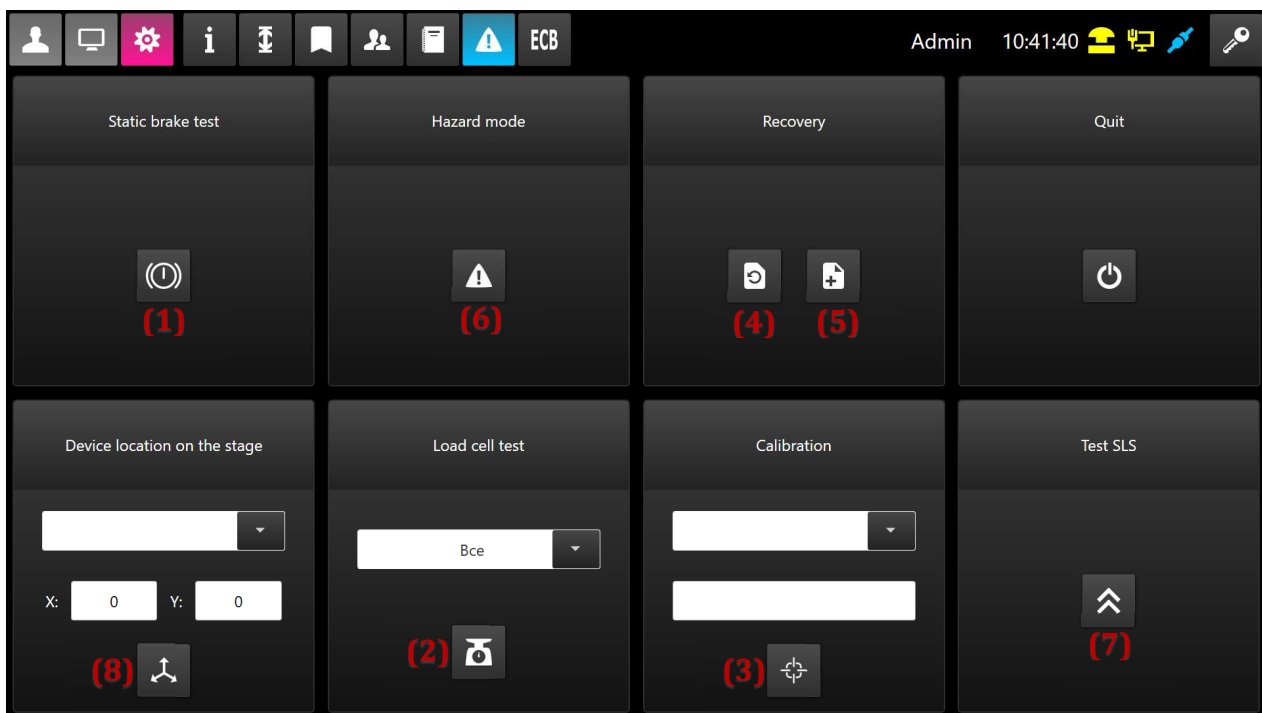

FIG. 56: EXAMPLE OF A SCREEN FOR SETTING POINT HOIST POSITIONS
Static brake test is done once per day after the system startup by pressing the blue acknowledge button. If one of those devices displays fault during the brake testing, it is possible to repeat the static brake test (Fig. 56 – (1)). Test repeats for all devices simultaneously.
To repeat the load cell test, which happens every time the control panel boots up, click on the grey field (Fig. 56), choose particular device and click the load button. You can also choose “All” from the list to re-test every device. Test results can be verified in the diagnostics screen.
Devices that are equipped with emergency limit switches, cannot be activated in regular operation. To test these switches, it is necessary to activate the test in the system. It is done by clicking the button (6) – Fig. 56. After clicking the button, the emergency limit switch test icon will appear (Fig. 5 – (5)). Then we need to switch to manual mode and assign the tested device to the joystick. After the joystick is assigned and the editation is locked, the position range will automatically widen. By moving the joystick and slowly driving towards the test limit switch, we can test its function. When the switch is reached, the device will stop itself and shows an emergency limit switch indication in diagnostics. The test is complete. Now we can override
Some devices may be equipped with a safety limited speed function (SLS). It is a safety function that can be also tested. To start the test, we press the button (7) – Fig. 56. Activated test is shown by icon (9) – Fig. 5. Then we switch to the manual mode and assign a joystick to the device which we want to test. The device has to have a higher set speed than the speed which the sls function monitors (we usually set maximum speed). Then we drive the device with the joystick until the SLS function activates and stops the device automatically. If that happens, the SLS function works as intended. By clicking the button (7) – Fig. 56, we can deactivate the test. After the test we press blue acknowledge button (4) – Fig. 2.
To change the device position in the system can be done via buttons and text fields (8) – Fig. 56. But first it is necessary to measure the new placement of the device. The beginning for proper measurements along with the axes X and Y are marked in the 3D view of the stage (see chapter 6). Then we choose a device from the list (8) – Fig. 56 and write a proper X and Y coordinate (in milimeters) and confirm by clicking the button (8) – Fig. 56.